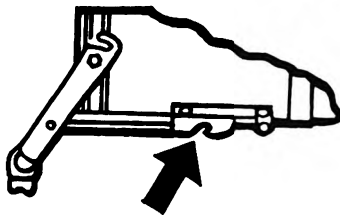

Figure 3.
3. Check that the forward bipod brace is engaged (figure 3).